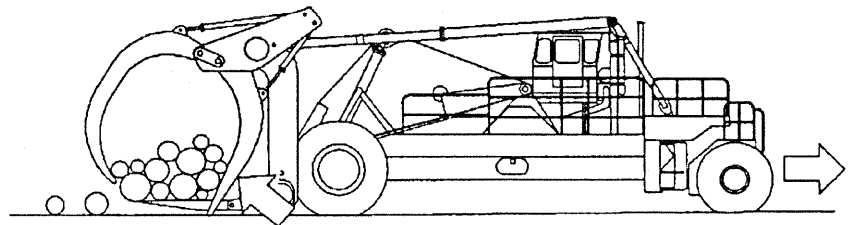

Fig 4-9
2. While backing the machine, slowly open the holddown arms and gradually push the load forward with the kickoff arms. This way, the logs can be dropped individually rather than all at once. See Fig. 4-9.